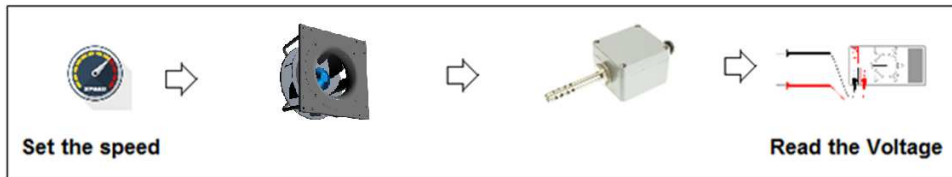

Fig. 32 – Find the PID Reference
- 3) In open loop set the fan speed at the desired performance and read the transducer voltage value (Fig.32)